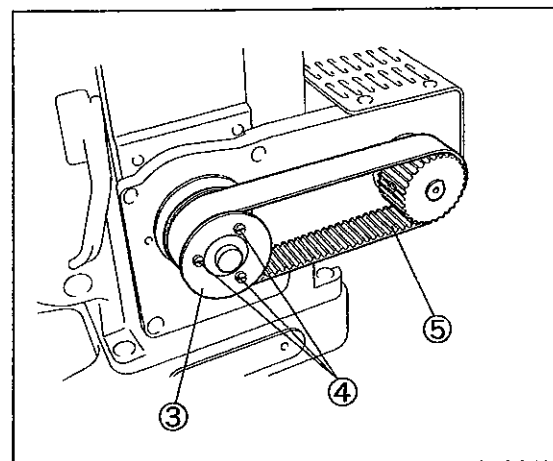

Fig. 52
2. Loosen the screws ④ of pulley(front) ⑦ to remove the flange ③. (Fig. 52)
1. Hang the timing belt ⑤ on the pulley(rear) ⑥, then the other end on the pulley(front) ⑦.
2. Turn the handwheel and press the timing belt ⑤ until the timing belt ⑤ comes to the center of machine pulley(front) ⑦. Make sure that the timing belt ⑤ is parallel with the motor bracket ⑧.
3. Install the flange ③ onto the machine pulley(front) ⑦. (Fig. 52)